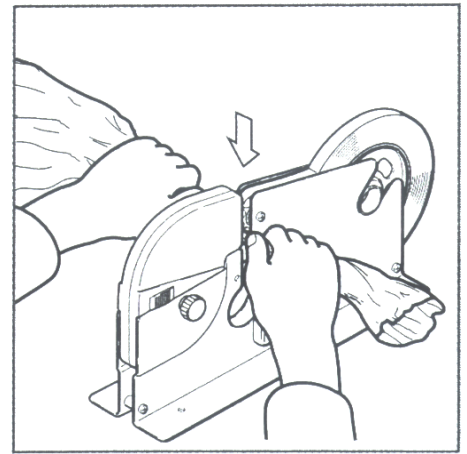

FIGURE 3
- 4) Take the bag and push it into and down the Bag Opening. See Figure 3.